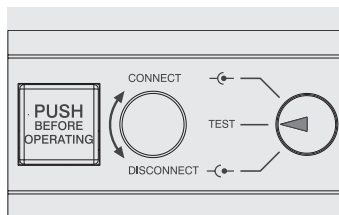

Figure 52
- circuit-breaker in the test position (see Figure 52)